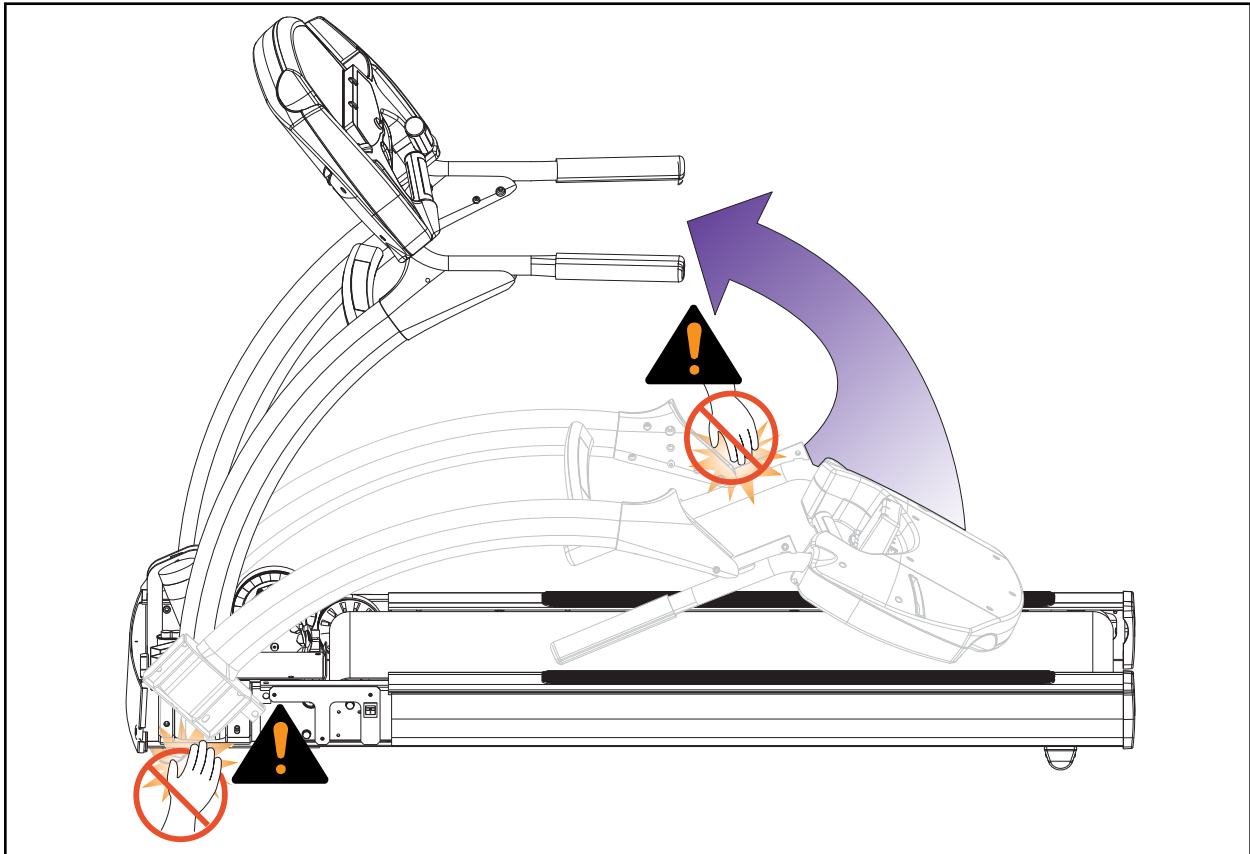

Figure 3
**CAUTION:** Do not pinch your hands or other body parts while pivoting the treadmill. See Figure 3.
- C. Raise the console and uprights into position (they will pivot into place). **NOTE:** Confirm that no cables are pinched while raising the unit. See Figure 3.